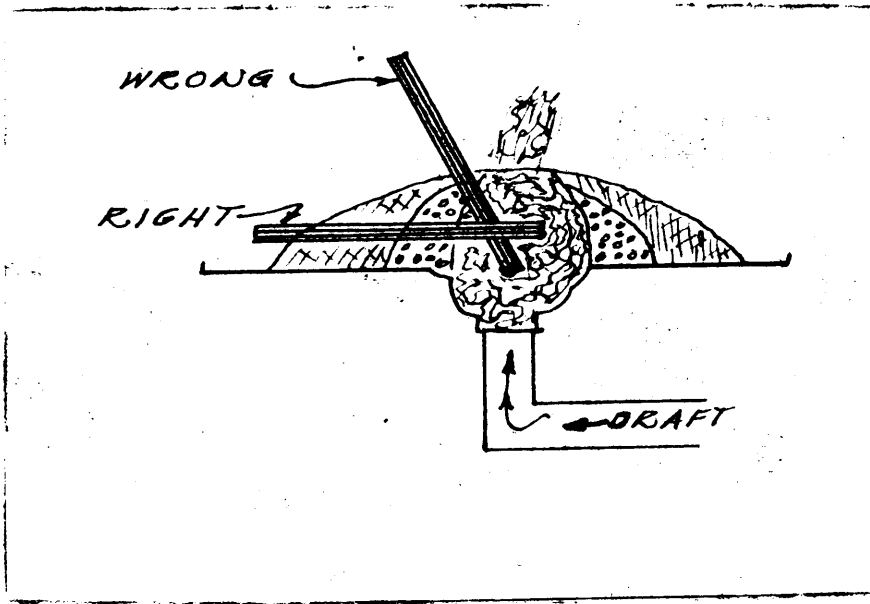

Figure 1.
4. Oxidation of iron takes place when the metal comes in direct contact with the blast. Some oxidation will always take place, but by keeping plenty of coke on all sides as in Figure 1, this will be limited. The result of oxidation is the forming of a scale on the iron that comes off in the process of hammering. A good blacksmith always keeps this scale wiped off his anvil.